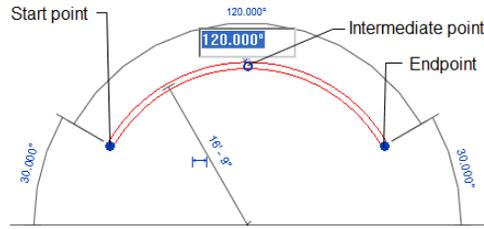

Figure 3-19 Sketching and modifying a curved wall profile
**Sketching Start-End-Radius Arc Profiles.** The **Start-End-Radius Arc** tool in the **Draw** panel of the **Modify | Place Wall** tab enables you to sketch an arc wall by specifying the start point, end point, and the intermediate point that determines the radius of the arc. To create an arc wall, invoke the **Start-End-Radius Arc** tool from the **Draw** panel of the **Modify | Place Wall** tab; you will be prompted to specify the start point of the proposed arc wall. Specify the start point by clicking in the drawing area. Now, you will be prompted to specify the endpoint of the curved wall. Specify the endpoint of the curved wall; a curved wall with a variable radius stretches dynamically between the two specified points. Specify the location of the third point between the two specified points to specify the subtended angle or the radius of the arc. As you specify the third point, the angular and radial temporary dimensions are displayed along with the curve on the screen. Next, click in the drawing area to specify the third point; the curved wall will be sketched. You can also modify the sketched wall to the desired curvature parameters such as radius, angle subtended, orientation, and so on. To modify the curvature, select the sketched wall, click on the parameter such as the angular dimension and enter the new value, as shown in Figure 3-19. You can also use the drag controls to increase or decrease the extent of the wall. The central blue dot can be used to stretch the wall, keeping the subtended angle constant.